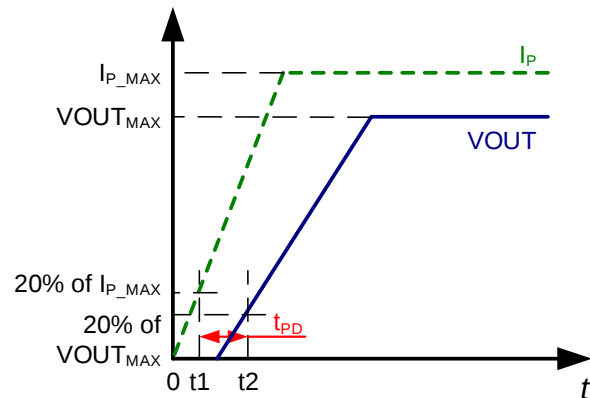

Figure 6: Propagation Delay (t_{PD})
2. t2: V_{OUT} reaches 20% of V_{OUT_MAX} (see Figure 6).